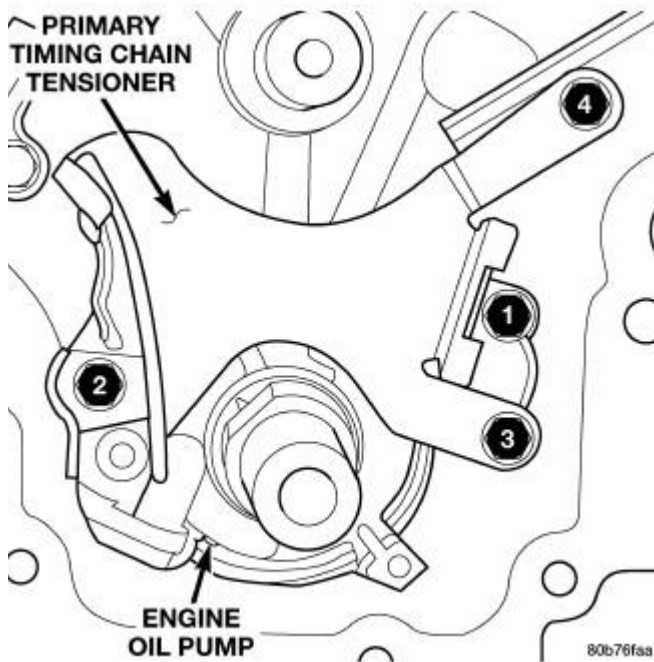

Fig. 202: Oil Pump And Primary Timing Chain Tensioner Tightening Sequence
3. Tighten the oil pump and primary timing chain tensioner retaining bolts to 28 N.m (250 in. lbs.) in the sequence shown in illustration. See **Fig. 202**.